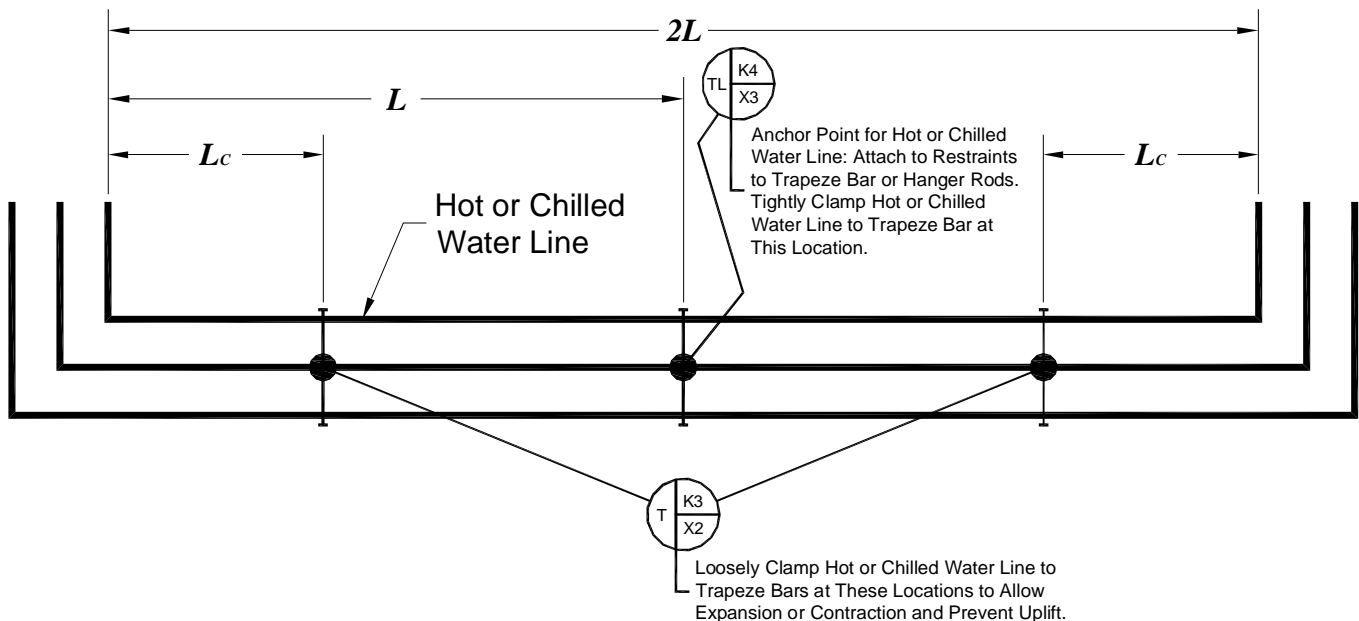

Figure S9-12; Hot or Chilled Water Line Trapeze Supported with Standard Water Lines: Case-1
There may be occasions when steam line, a chilled water line, or a domestic hot water line will be supported by trapeze bars along with other piping that does not need to meet the seismic restraint requirements for extreme temperature piping, see Figures S9-12 and S9-13 below. Special considerations must be taken into account when restraining the trapeze supported piping where one or more of the supported lines will experience expansion or contraction.
- i. If the longitudinal seismic restraint is attached to the trapeze bar, Case-1 Figure S9-12, the hot or chilled water pipe must be ***tightly clamped*** to the trapeze bar, and the restraints sized to handle the seismic forces generated by all of the pipes being supported by the trapeze bar.